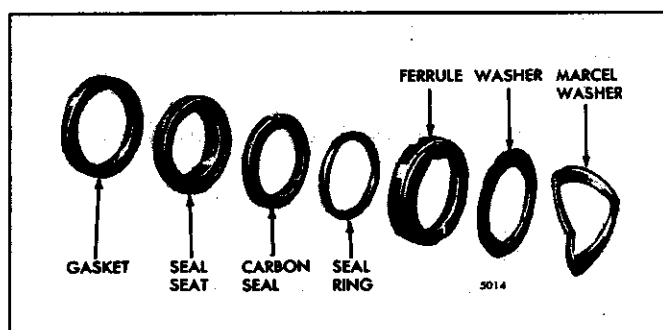

Fig. 3 - V-Type Engine Impeller Seal Detail
4. Remove the seal assembly (Fig. 3) from the pump used on the V-type engine by inserting two wires with hooked ends between the pump housing and the seal, with the hooks over the edge of the carbon seal. Remove the seal seat and gasket in the same way.